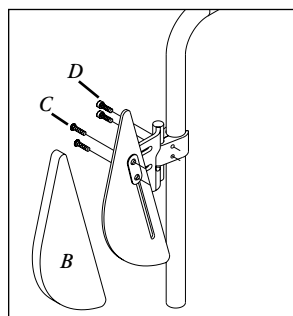

Figure 15
2. Lateral Supports Location Setting (Fig. 15)
- Remove the lateral covers (B). Leave the lateral support foam pads on.
- To move the lateral supports up or down loosen the screws (C) and slide them vertically until desired location is obtained, tighten the screws (C) to secure the lateral supports.
- Should more adjustment be required, two more openings are available on the back cane envelopes to allow for height adjustment of the hardware itself. To relocate the hardware loosen the screws (D) of the clamp until it can be taken off the cane. Move the clamp and hardware up or down as needed and tighten the screws (D) firmly.